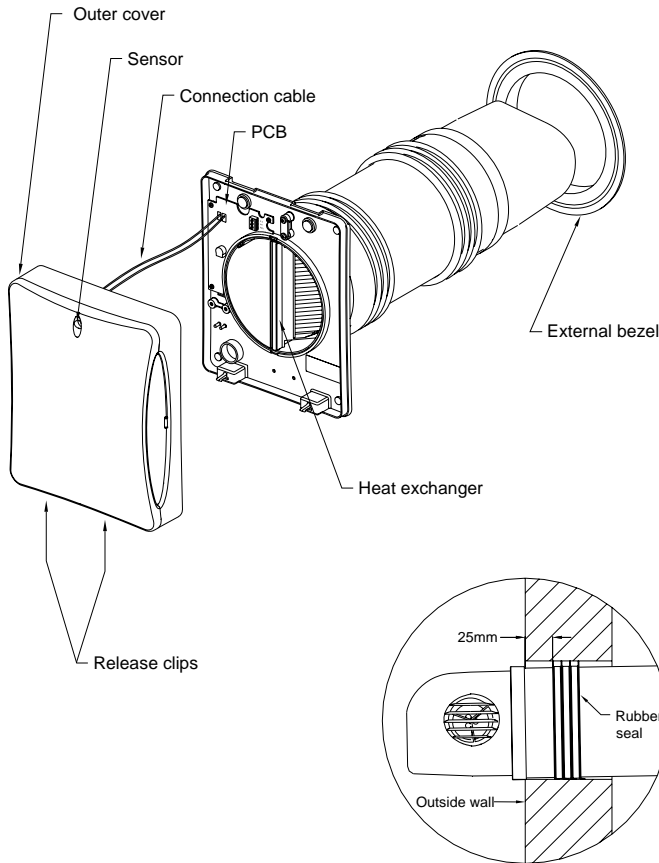

Fig.13
2. Measure the total wall thickness. The outer of the two rubber seals is adjustable and should be set in a position that is 25mm in from the outer face of the external wall (Fig. 13).